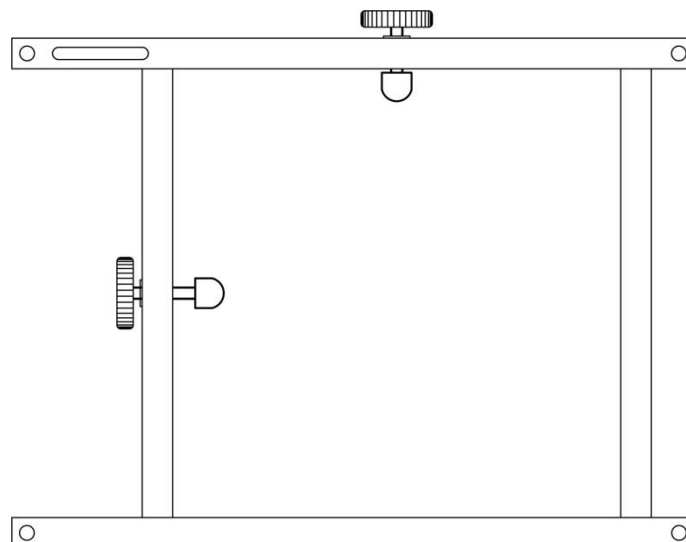

Figure 12
- Tighten threaded knobs found on tank tray (Fig. 12) so that the LP tank cannot move from side to side. Do not remove plastic cap from end of threaded section